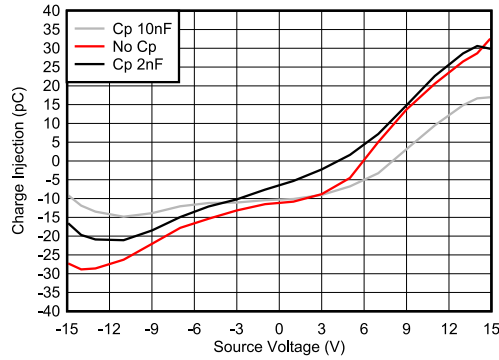

Figure 8-2. Charge Injection Compensation
The TMUX7234 contains specialized architecture to reduce charge injection on the source (Sx). To further reduce charge injection in a sensitive application, a compensation capacitor (C_p) can be added on the drain (D). This will ensure that excess charge from the switch transition will be pushed into the compensation capacitor on the drain (D) instead of the source (Sx). As a general rule of thumb, C_p should be 20x larger than the equivalent load capacitance on the source (Sx). Figure 8-2 shows charge injection variation with different compensation capacitors on the drain side. This plot was captured on the TMUX7219 as part of the TMUX72xx family with a 100pF load capacitance.